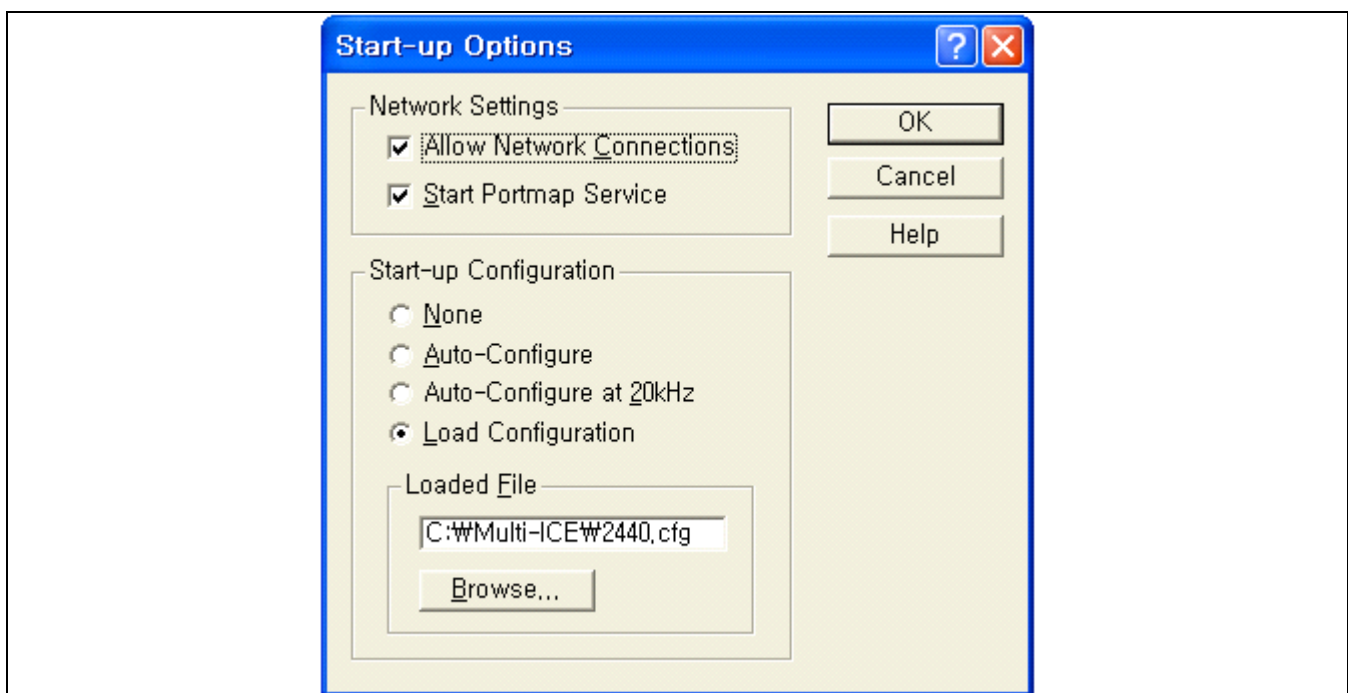

Figure 2-9. Start-up Configuration
6. Start-up Options dialog box is displayed (See Figure 2-9).